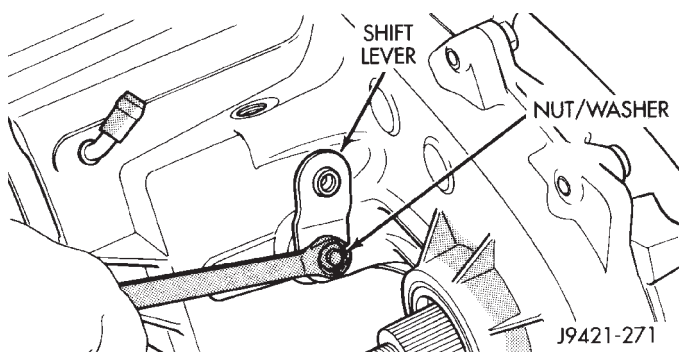

Fig. 23 Shift Lever Removal
(5) Remove nut and washer that retain shift lever to sector shaft. Then remove shift lever from shaft (Fig. 23).